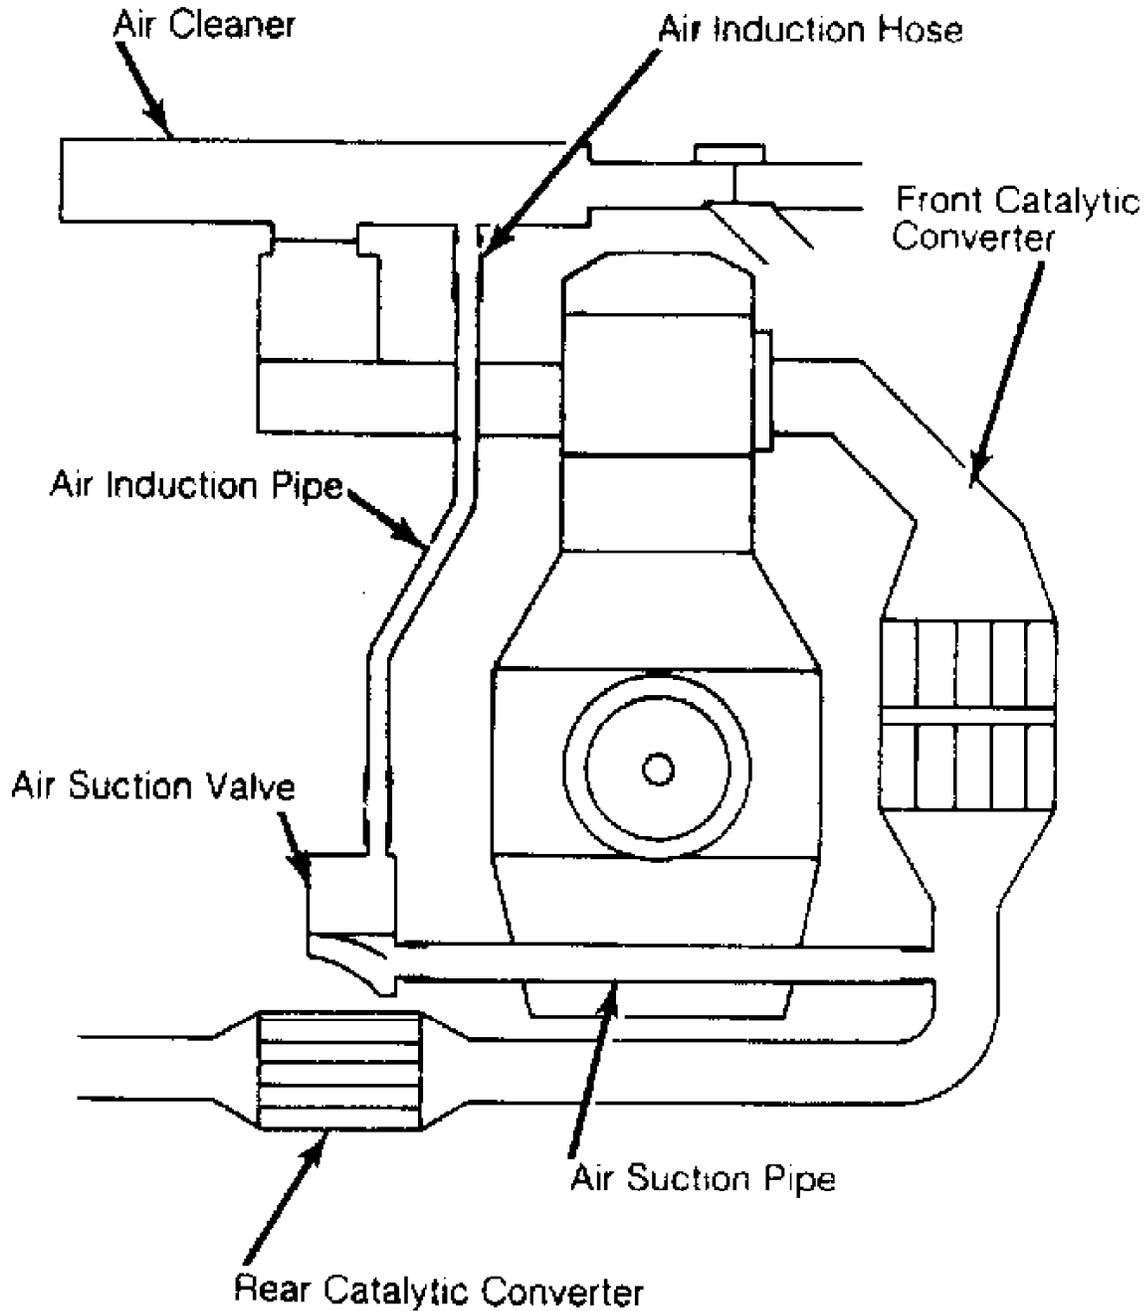

Fig. 3: Air Injection System (Justy)
1) Blow air through suction valve air inlet section. Air should flow smoothly through valve outlet. See Figs. 3 and 4. If air does not flow through smoothly, reed valve is stuck closed. Replace reed valve.